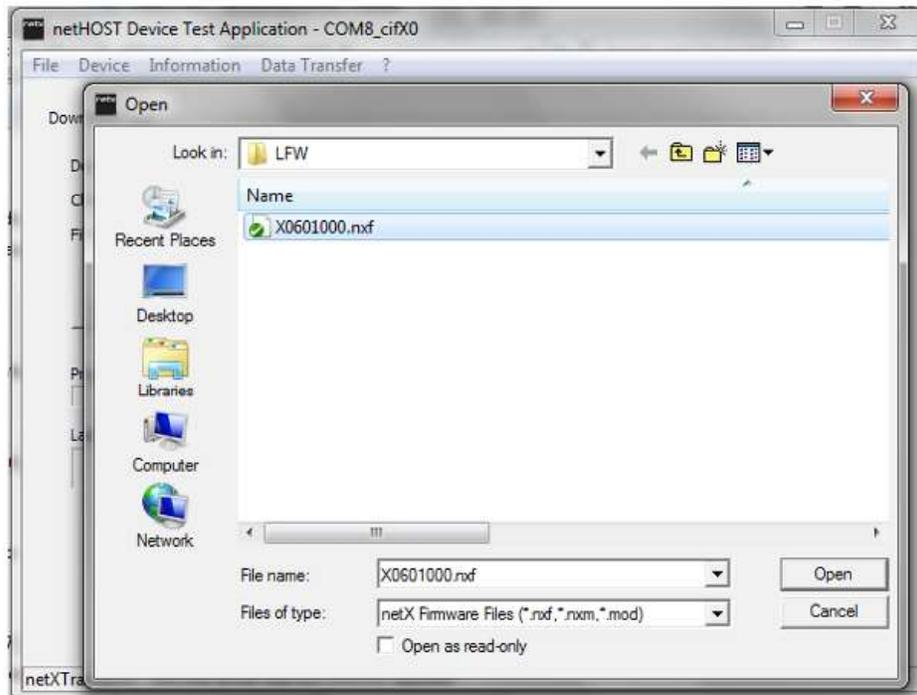

Figure 44: Open file [netHOST\_download\_file]
19. The Explorer window "Open" opens. Select the file type "netX Firmware Files", the file "X0601000.nxf" and click "Open" (Figure 44, STMA-69238);